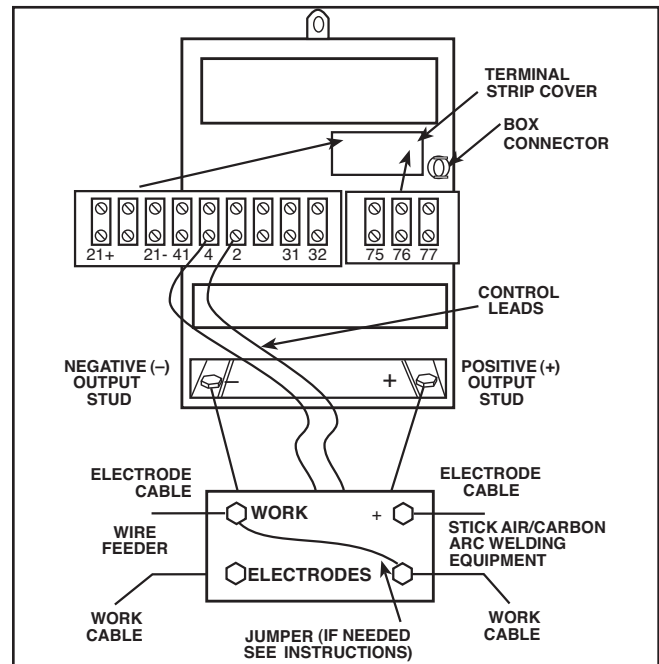

FIGURE C.2 - MULTI-PROCESS SWITCH CABLE CONNECTIONS.
7. Connect the right cable from the MULTI-PROCESS SWITCH (facing the front of the machine) to the IDEALARC® DC-600 positive (+) output terminal. See Figure C.2.
8. Connect the left cable from the MULTI-PROCESS SWITCH (facing the front of the machine) to the IDEALARC® DC-600 negative (-) output terminal. See Figure C.2.
9. Connect the wire feeder electrode and work cables. See Figure C.2.
12. Connect stick or air/carbon arc electrode and work cable. See Figure C.2.
NOTE: When it is not necessary to have separate ground cables for stick and semi-automatic or automatic welding, connect a jumper from the MULTI-PROCESS SWITCH "Work" terminal to the MULTI-PROCESS SWITCH "negative" terminal. See Figure C.2.